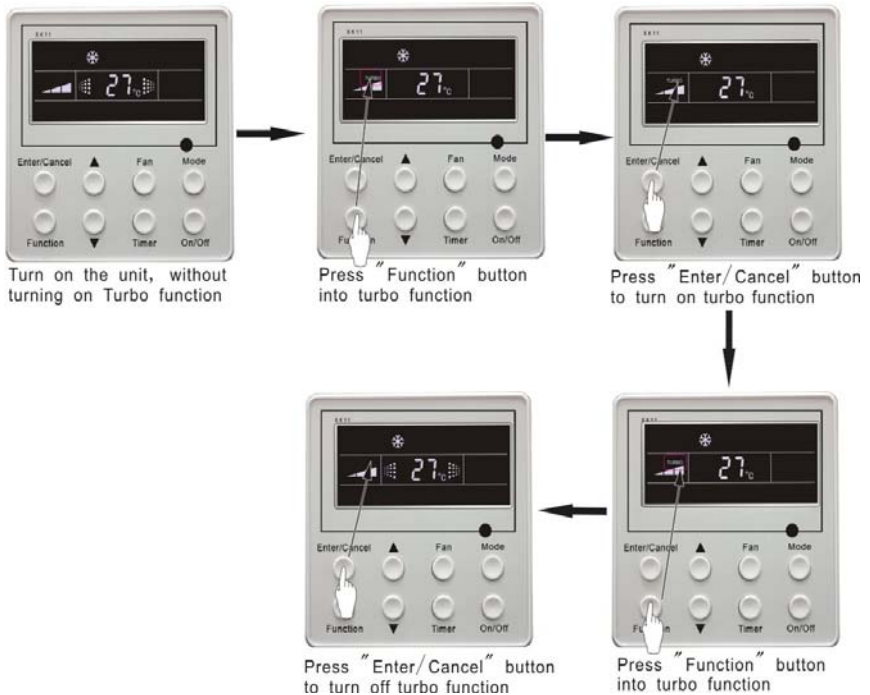

Fig.13 Turbo Function Setting
**TURBO** function setting is shown in Fig.13 :